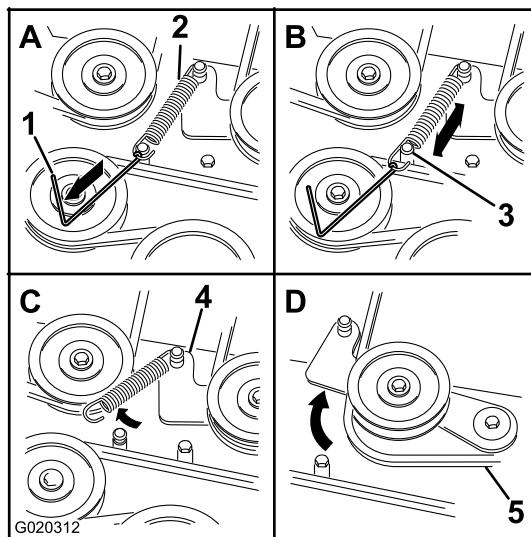

Figure 65
7. Using a spring removal tool, (Toro Part No. 92-5771), remove the idler spring from the deck post to remove tension on the idler pulley (Figure 65).
10. Install the new belt around the mower pulleys and the clutch pulley under the engine (Figure 65).
11. Using a spring-removal tool (Toro Part No. 92-5771), install the idler spring over the deck post and placing tension on the idler pulley and mower belt (Figure 65).